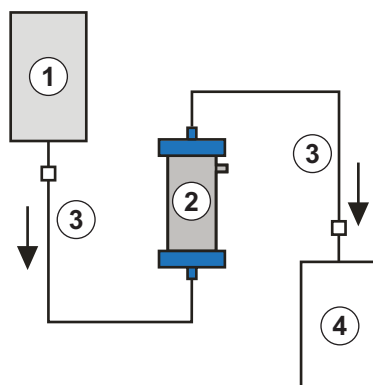

Fig. 6-3 Set-up for heparin adsorber rinsing
Materials: See legend to Fig. 6-3
2. Attach the second connection line and the collection bag as shown in Fig. 6-3 with outlet side of the heparin adsorber.